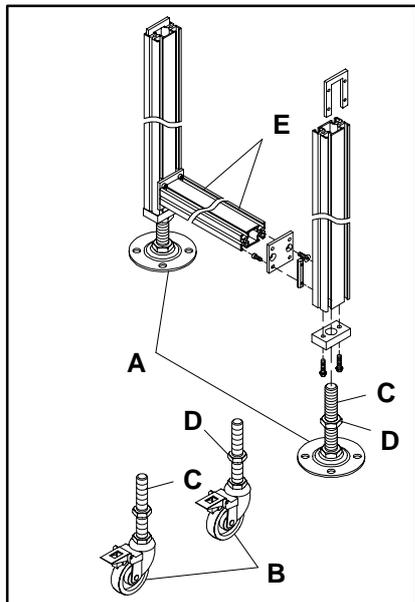

Figure 1: Standard Aluminum Support Stand
Aluminum Support Stands (Figure 1)
Aluminum support stands are available with either permanent floor mounting pads (A of Figure 1) or optional pivoting and dual lockable, 102 mm diameter casters (B). Both the floor mounting pads or caster assemblies have threaded shafts that provide ± 51 mm of adjustment. Rotate the threaded shaft (C) in or out to obtain the desired height and then fix the position by tightening the locking nut (D). Activation of the caster wheel dual lock prevents the caster from both pivoting and rolling. Locks are activated and de-activated with foot pressure.